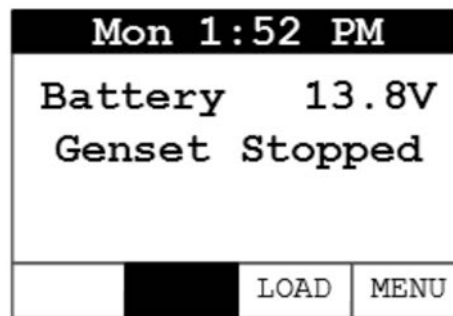

FIGURE 15. GENSET STOPPED
- 7. Normal operation resumes. See Figure 15.